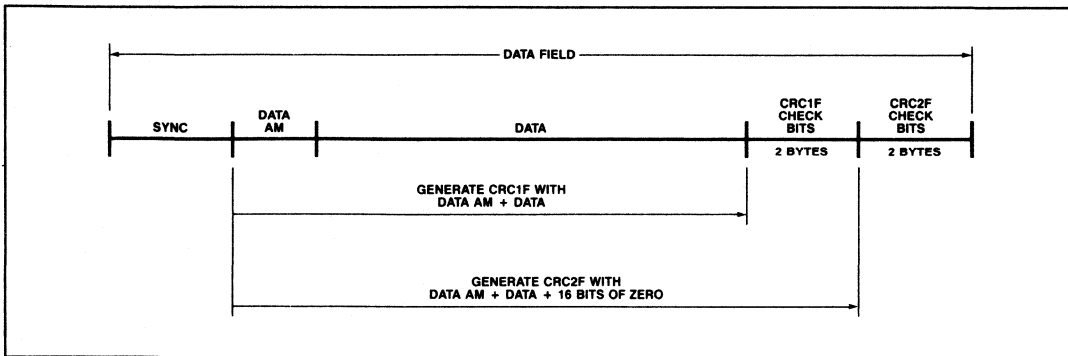

Figure 9. Write Cycle
**Error Detection Scheme.** As shown in Figure 9, four CRC check bytes are appended to the last bit of data during the write cycle. The first two check bytes are derived by passing the data address mark and data bytes through the preset CRC1F generator. After accepting the data address mark and data bytes, the contents of the CRC1F generator are the two CRC1F check bytes. The two CRC2F check bytes are generated by applying the data address mark, the data, and sixteen bits of zero as inputs to the preset CRC2F generator.